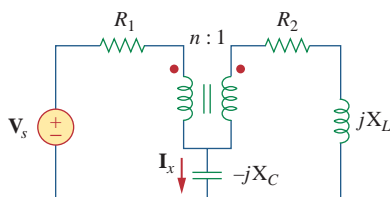

Figure 13.113
- 13.48** Using Fig. 13.113, design a problem to help other students better understand how ideal transformers work.